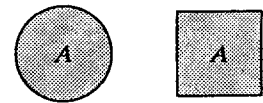

Figure P8.3
8.3 *Two pipes, one circular and one square, have the same cross-sectional area (Fig. P8.3). Which has the larger hydraulic radius, and by what percentage?*